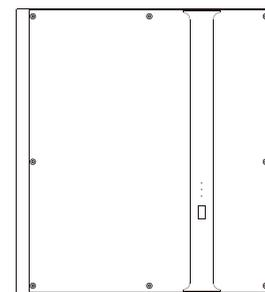

Figure 2.17 Re-cover the Upper Cover Plate
Step 13 The wiring is completed, please re-cover the B3 upper cover plate and use the T20 double offset ring spanner to tightly lock the upper cover screw. The suggested torque is 2.8 N.m±10%. Then install the white plug, as shown in Figure 2.17.